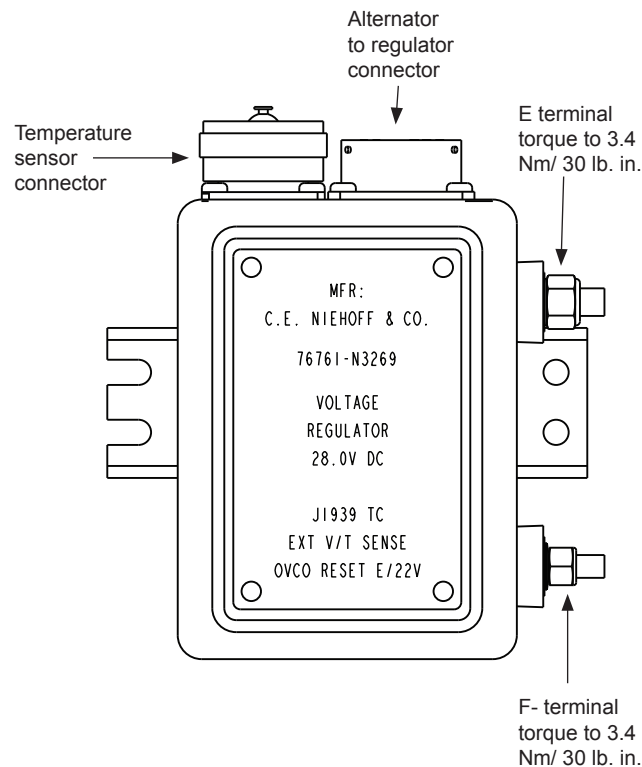

Figure 4: N3269 Alternator
2. Connect alternator-to-regulator harness to receptacle on regulator. See Figure 4.